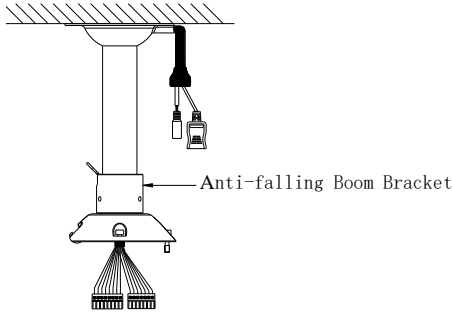

Fig 2
Step 2: through the integrated line across anti-falling boom bracket, and fix the anti-falling boom to wall(as Fig 2)